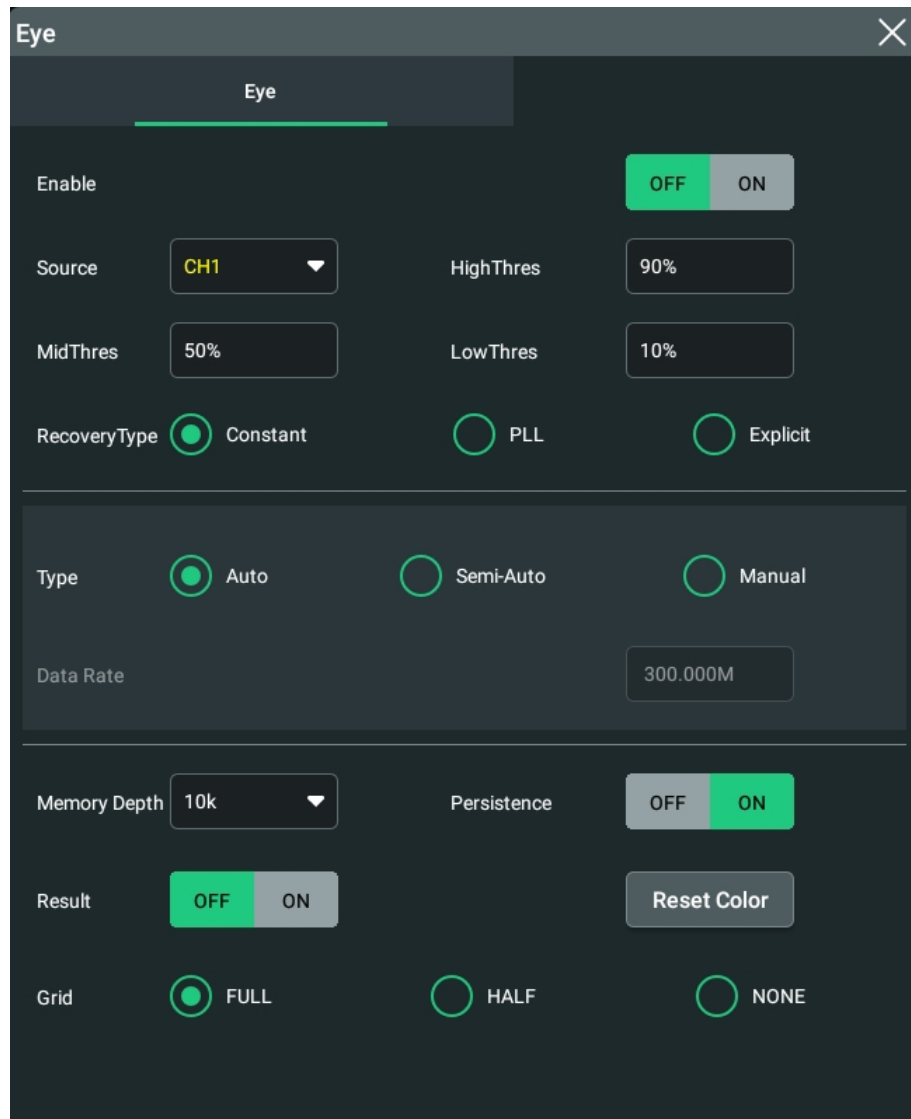

Figure 12.1 Eye Diagram Setting Menu
- Click or tap **Setting**, then the eye diagram menu is displayed, as shown in Figure 12.1